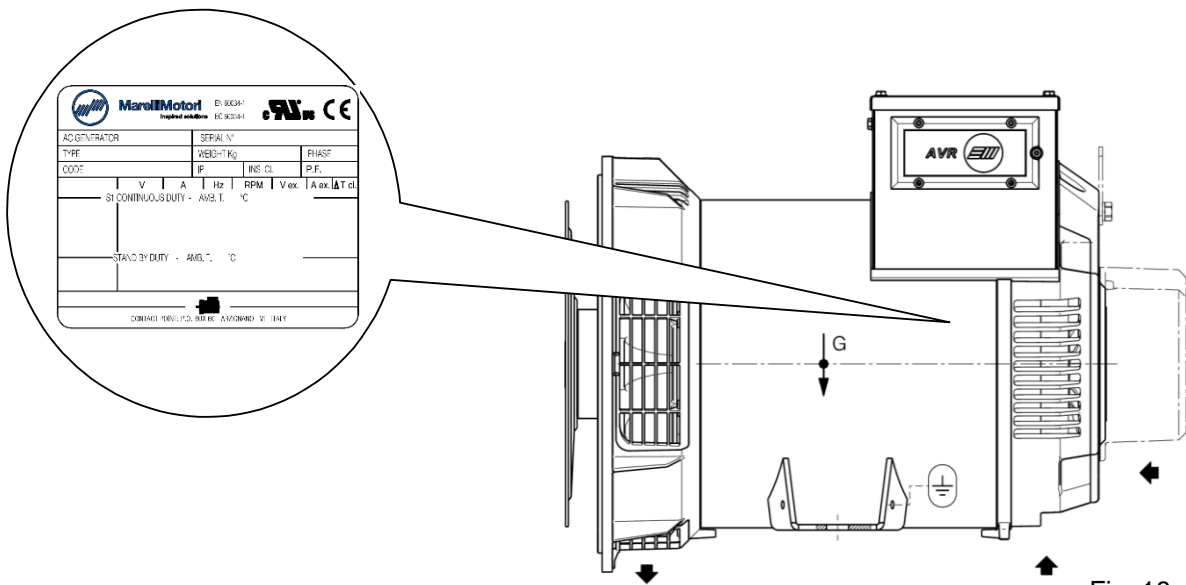

Fig. 18
3. Remove the adhesive from the plate and apply it as shown in fig. 18 by pressing on it with a rubber roller to ensure greater adherence.